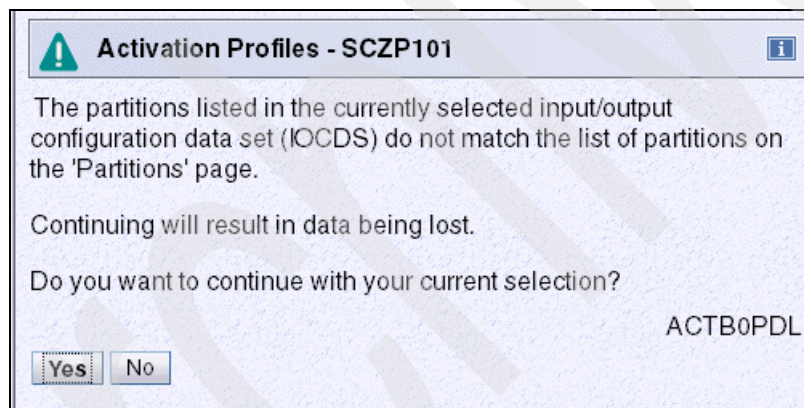

Figure 6-56 HMC - Activation Profiles message ACTB0PDL
8. Message ACTB0PDL is displayed (Figure 6-56).